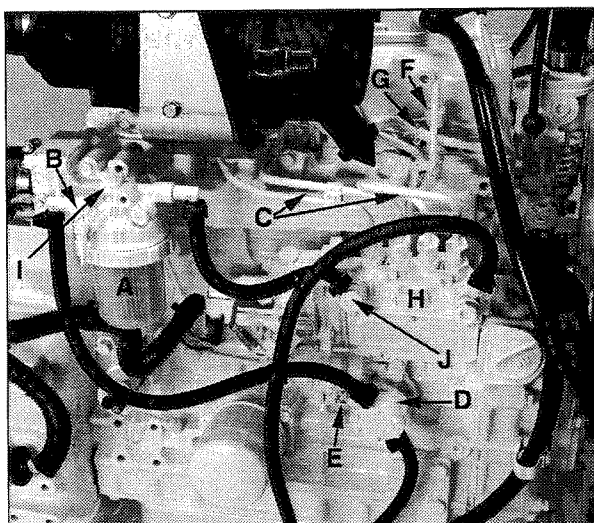

Figure 16: Fuel System.
2. Loosen bleed screw (Figure 16-I) on top of the fuel filter (Figure 16-A). Pump hand primer on fuel lift pump (Figure 16-E) until pure fuel (no bubbles) escapes from bleed screw. Tighten bleed screw.
3. Loosen bleed screw on the injection pump (Figure 16-J). Pump hand primer until pure fuel (no bubbles) escapes. Tighten bleed screw.
4. If the engine does not start after this bleeding process, loosen a fuel line at the injector (Figure 16-F) while cranking the engine with the starter motor until pure fuel escapes. Then tighten the connection. Do each line **one-at-a-time**.
- b. Relieve high pressure in the fuel lines by loosening the delivery line flare nuts at each injector (Figure 16-F).
- c. Remove delivery lines (Figure 16-C) by disconnecting from injectors and injection pump. Remove all lines as an assembly; do not remove the spacers. Cover the ends of the lines, the injector inlets and injection pump outlets to keep dirt out. **NOTE: On some models it is necessary to remove the air filter housing to access the fuel injection lines.**
- d. Remove the return line retaining clamps (Figure 16-G) and remove the return lines.